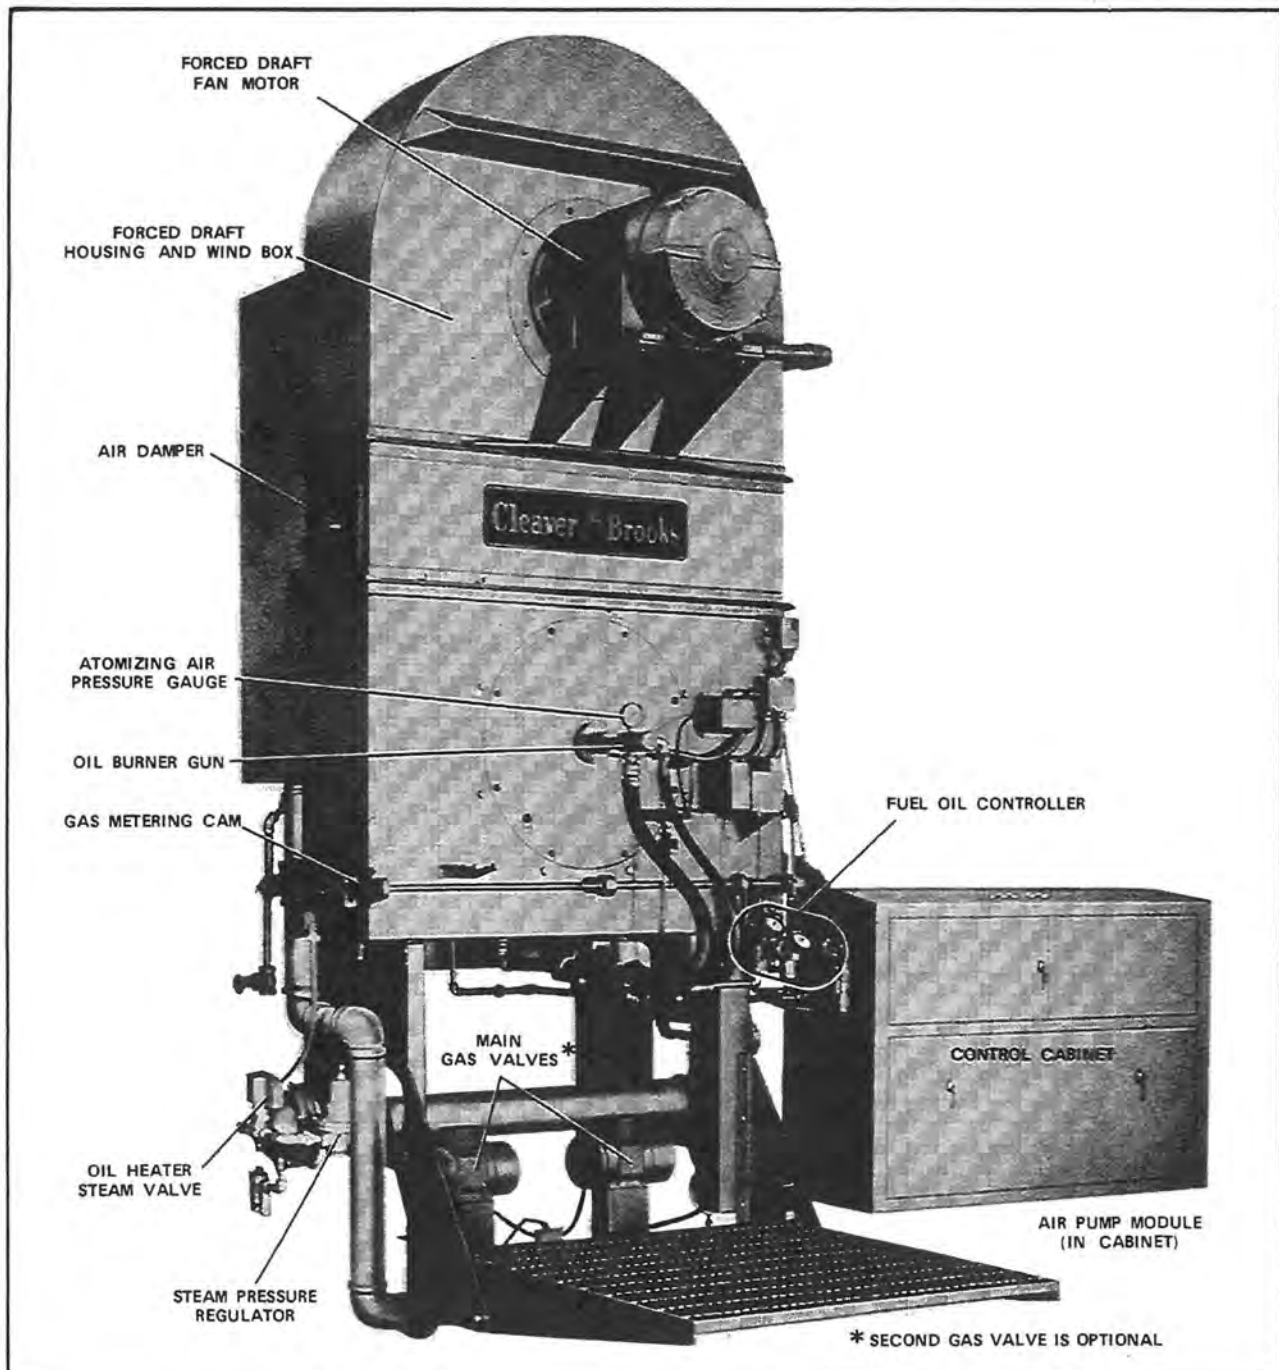

FIGURE 1-1 TYPICAL MODEL CN BURNER - NO. 6 OIL AND GAS FIRED
- (1) Forced Draft Fan (figure 1-1): Furnishes all air, under pressure, for combustion of pilot fuel and main fuel and provides purge air.
- (2) Forced Draft Fan Motor (figure 1-1): Drives forced draft fan directly to provide combustion air. Also referred to as a blower motor.
(19) Rotary Air Damper (figure 1-1): This damper provides accurate control of combustion air in proportion to fuel input for various load demands.
(5) Main Gas Valve (figure 1-1): An electrically actuated shut-off valve. When opened, this motorized valve admits main flame gas through the butterfly (modulating) gas valve.
(7) Gas Modulating Cam (figure 1-1): Assembly consisting of quadrant, a series of adjustable allen-head screws and a contour spring provided for adjustment of gas input at any point in the modulating range.
(3) Air Pump Module (figure 1-1 and 4-7): This
(9) Atomizing Air Pressure Gauge (figure 1-1): Indicates the atomizing air pressure at the burner gun.
(16) Fuel Oil Controller (figures 1-1 and 1-9): An assembly combining into a single unit the gauges, regulators and valves required for regulating the flow of fuel oil. All controllers have the following integral parts. In addition to these, the controller used on a No. 6 oil fired burner has additional components described in Section F.